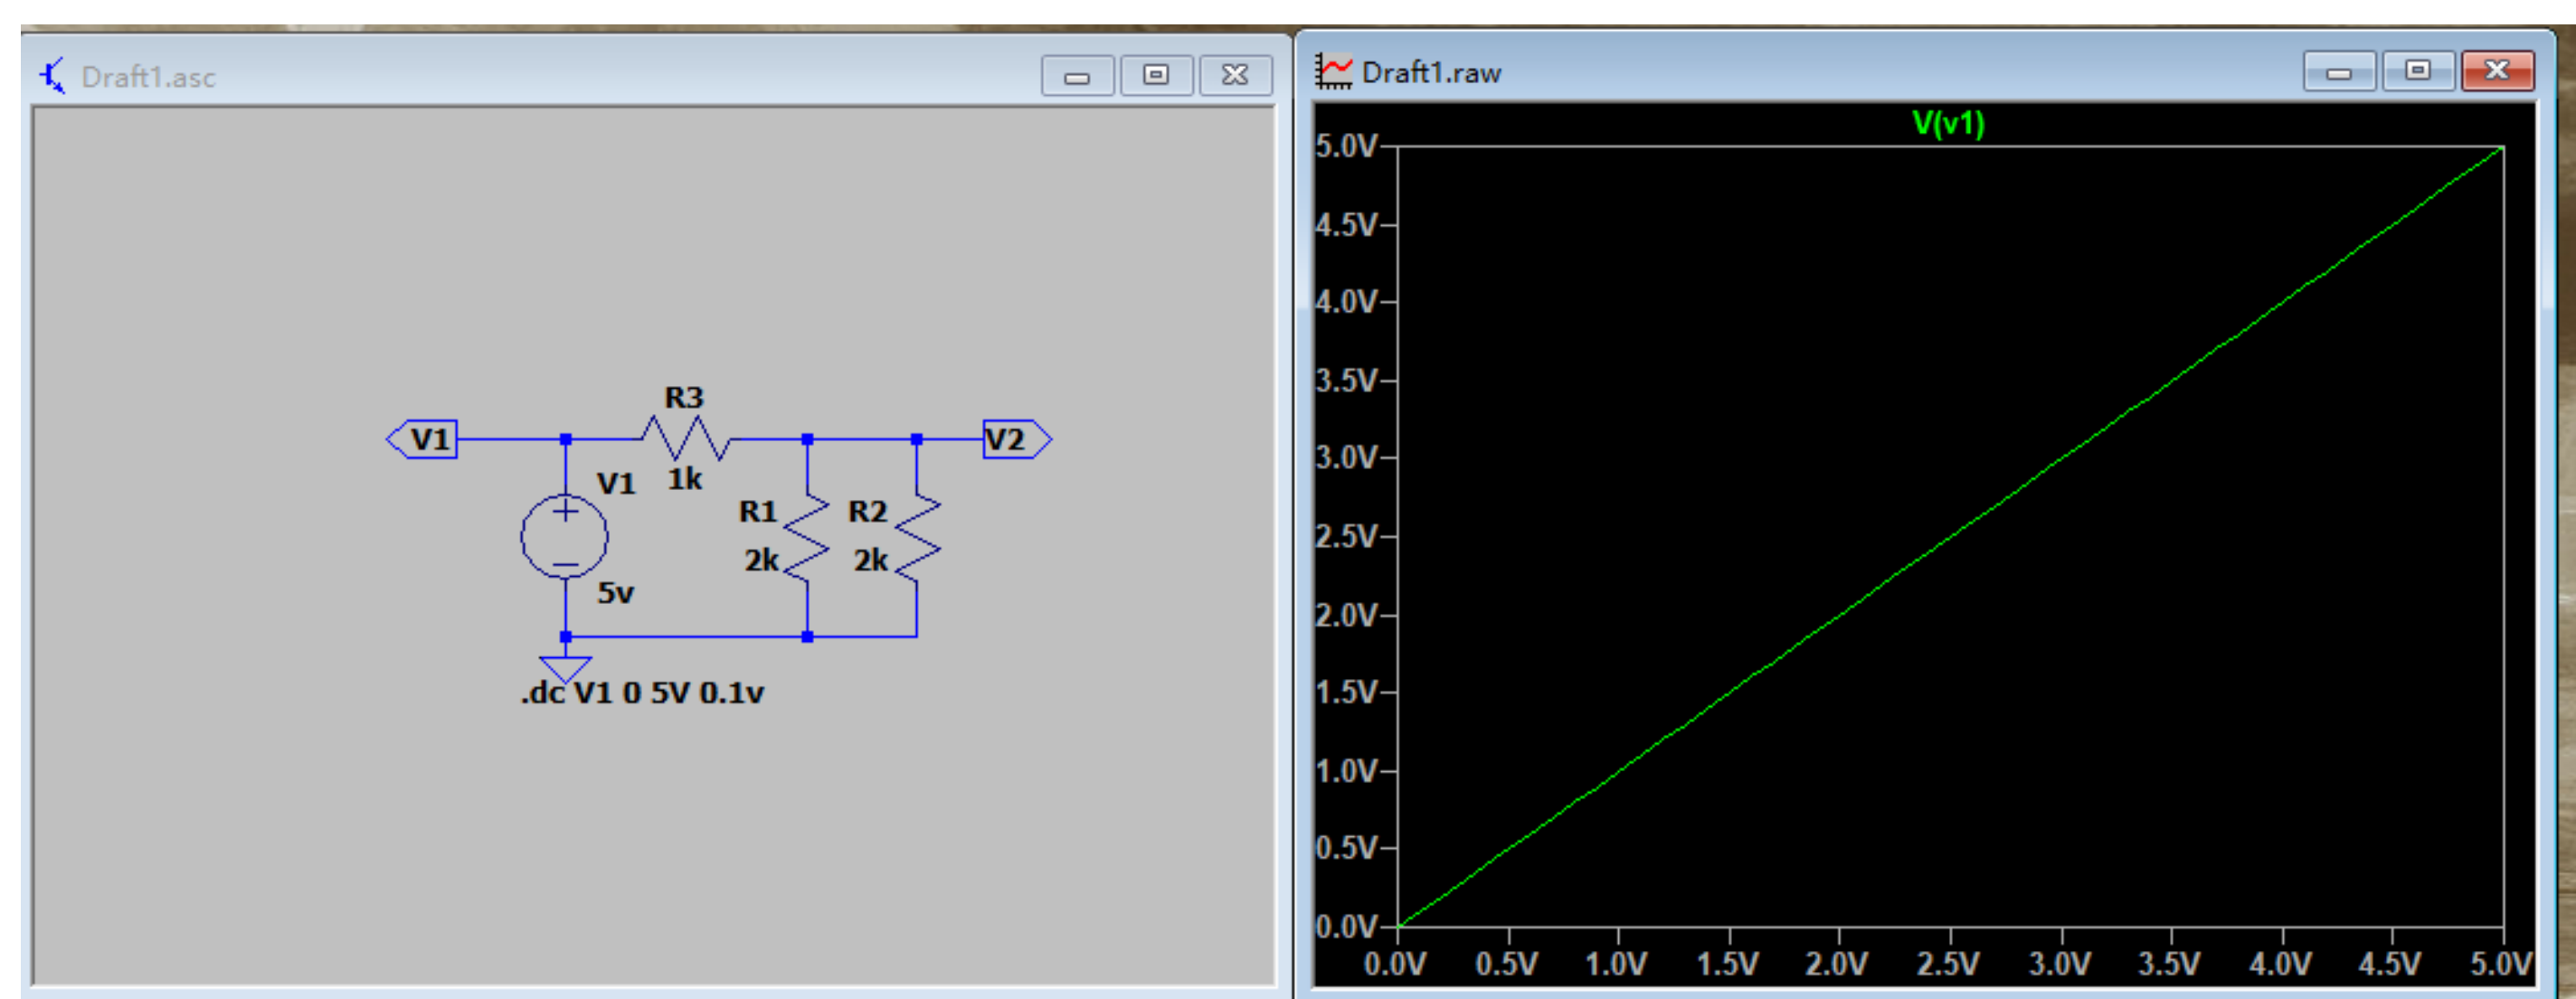

Figure 12: DC simulation example
- e) Then start simulation. Click  to start the simulation. Move the cursor to the label V1. When the curse suddenly looks like a “voltage sensor()”, left click and you get screen like Figure 12.